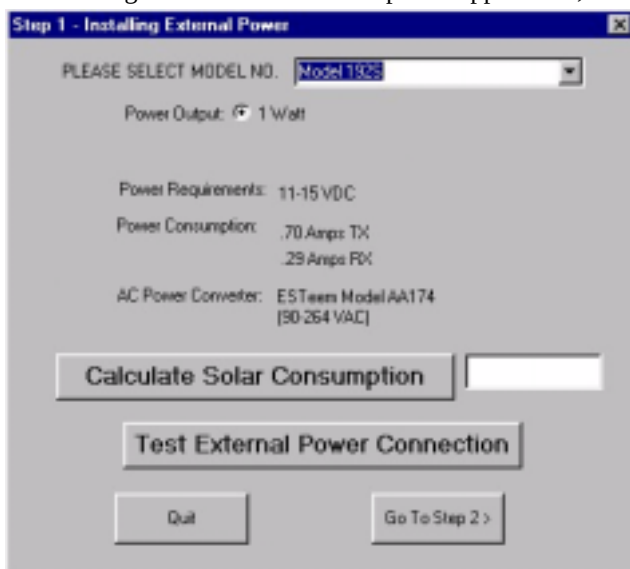

Figure 4: Step 1 - Installing External Power
2. Step 1 – Installing External Power window will be displayed (Figure 4). Select Model 192S on the menu and the voltage and current specifications will be displayed. The ESTeem model AA174 power supply can be used with all ESTeem products. If you are using the ESTeem in a solar power application,